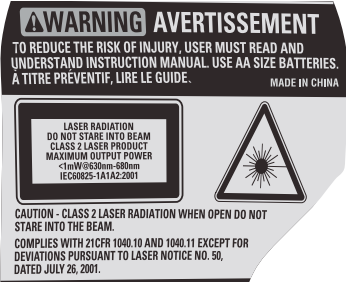

FIG. 1
For your convenience and safety, the following label is on your laser (Fig. 1).
1. Lift up the battery compartment cover (A) as shown in Figure 1.